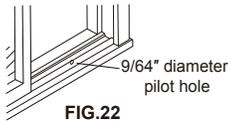

FIG.22
**25 Drill a 9/64" diameter pilot hole** in the window jamb an equal distance from each side of the jamb (FIG.22), and 3/16" up from the window sill. If the hole coincides with the window lever slot in the jamb bottom, an additional hole will have to be drilled through the platform edge and the window jamb to miss this slot.